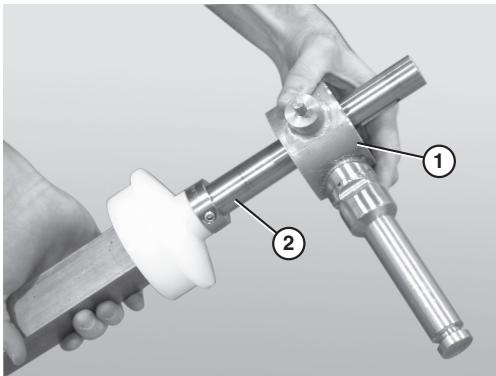

Figure 85
7. Slide the second bearing shaft assembly, or the motor mount bracket (Figure 85, item 1), onto the longer end of the drive spindle (Figure 85, item 2).